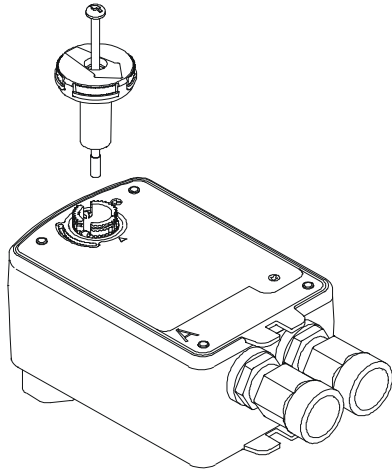

Figure 8: Installing the Fixed Pointer
6. Insert fixed pointer and M4x0.7x83 mm long screw into the Side A actuator hub (Figure 8). Direct the arrow on the pointer to 100%.